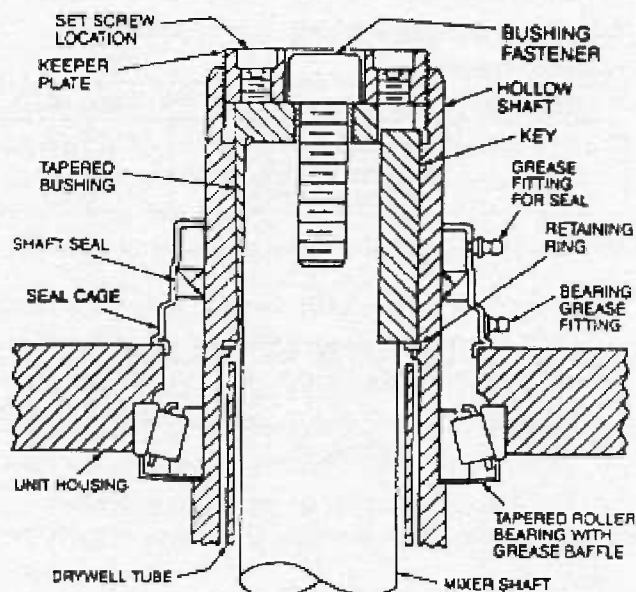

Figure 11 — Tapered bushing installation
5. Refer to Fig. 11. Rotate the mixer shaft to line up the keyways. Insert the key in the keyway from the top and tap it into place against the internal retaining ring in the hollow shaft.
6. Refer to Fig. 11. Slide the tapered bushing over the top of the mixer shaft. Install the bushing fastener and tighten to the torque shown in Table 5.